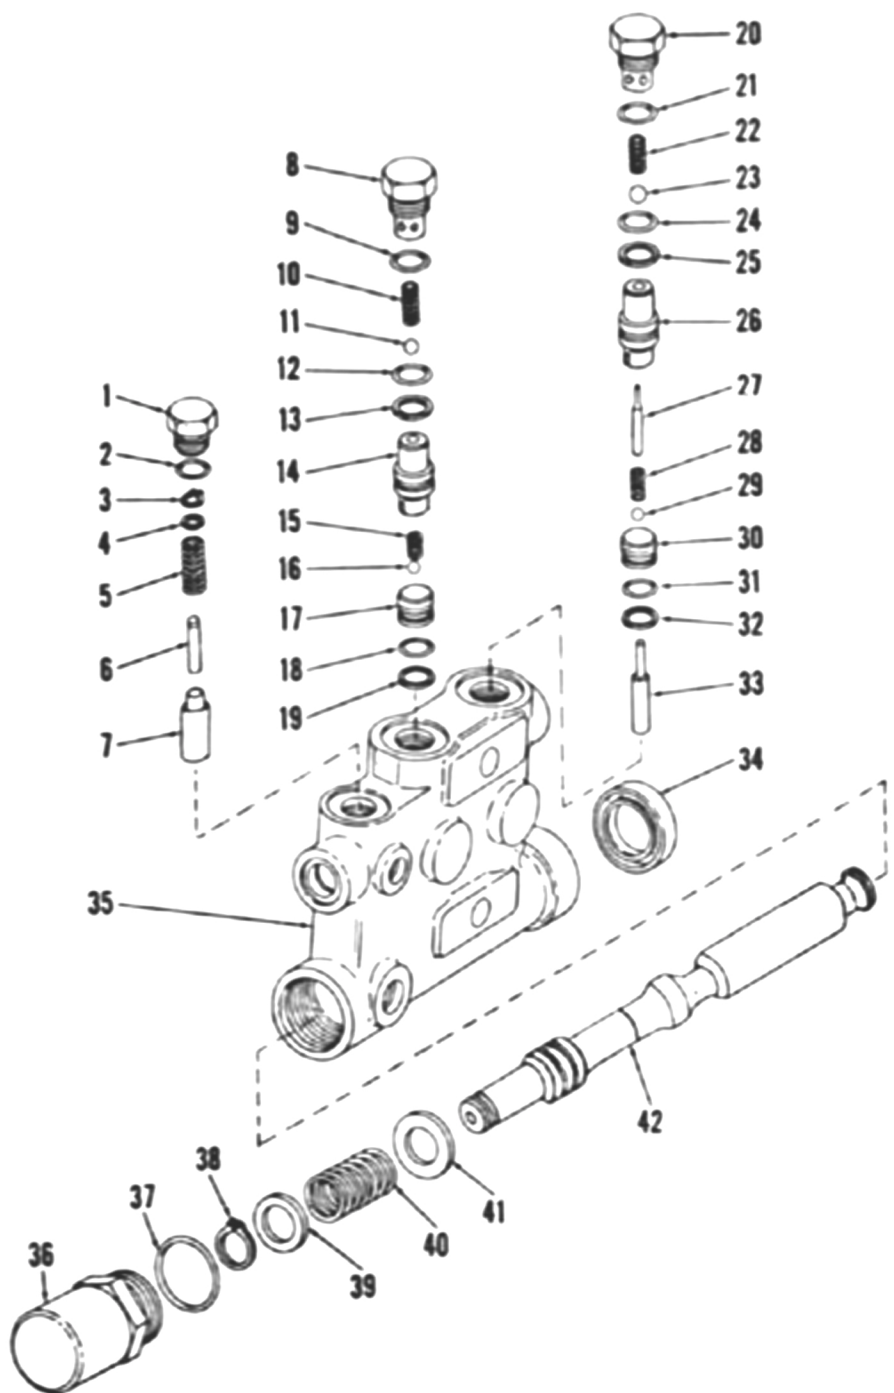

Fig. 131 - Exploded view of hydrostatic drive control valve assembly.
106. DRIVE CONTROL VALVE. To disassemble the drive control valve, refer to Fig. 131 and remove plug (1) with "O" ring (2). Withdraw valve pin (6), spring (5) and anti-coast valve (7). Unscrew plug (8) and remove the deceleration and check valve assembly (items 8 through 19). This assembly is referred to as capsule "B" and normally is withdrawn as an assembly. However, if the capsule comes apart during removal, lay parts out in order. Springs (10 and 15) and balls (11 and 16) must not be interchanged.